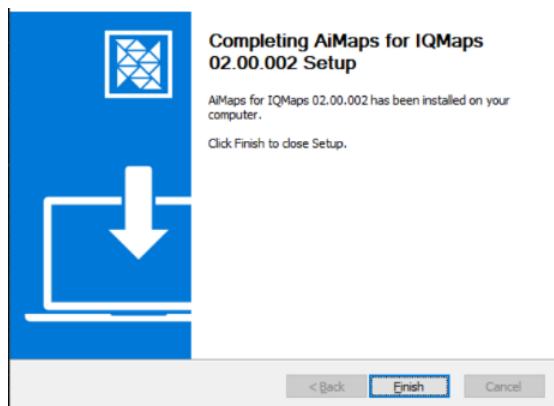

Fig. 12 AiMaps install step 4
5. Complete the installation process by clicking on **Finish** button of Fig. 12.